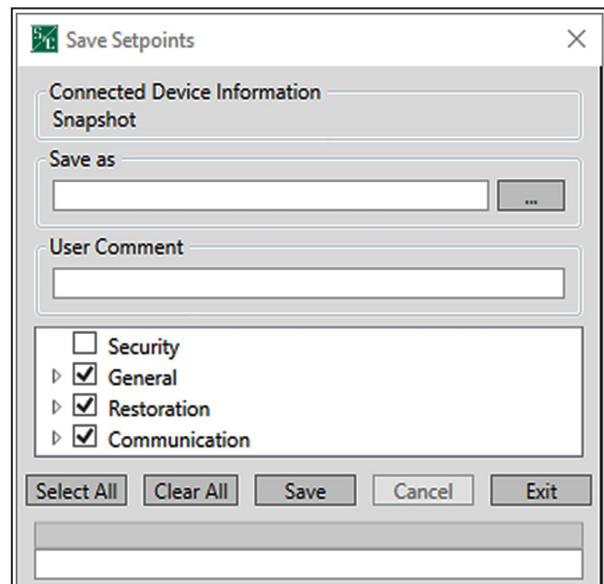

Figure 11. The Save Setpoints dialog box.
- STEP 2.** In the Save Setpoints dialog box, click on the **Select All** button followed by the **...** button. See Figure 11. The Save Setpoints dialog box will open.